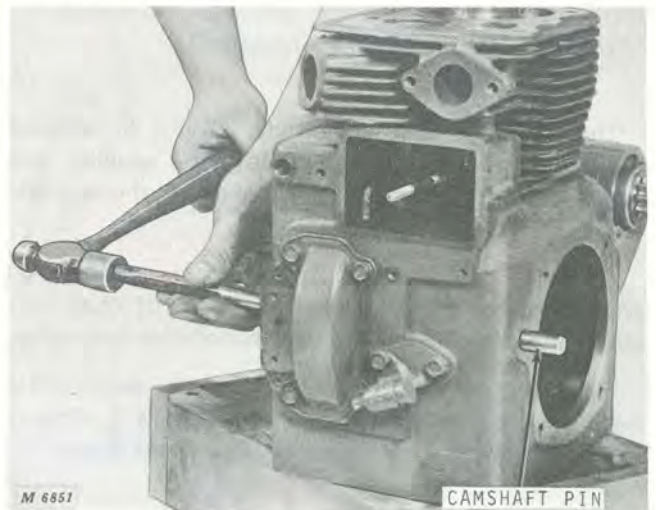

Fig. 5-Removing Camshaft Pin
Use a blunt punch to drive camshaft pin out of block, Figure 5.
**NOTE:** Drive pin out from power take-off side of cylinder block only. Pin will slide out easily after it is driven free from this side of block, Figure 5. Removing or installing pin incorrectly will damage engine block.